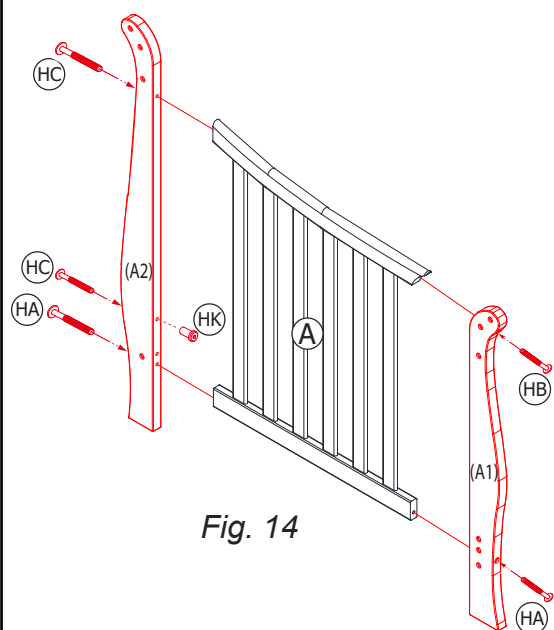

Fig. 14
3. Attach the Post (A1&A2) to Left Side Frame(A) as Fig.14.